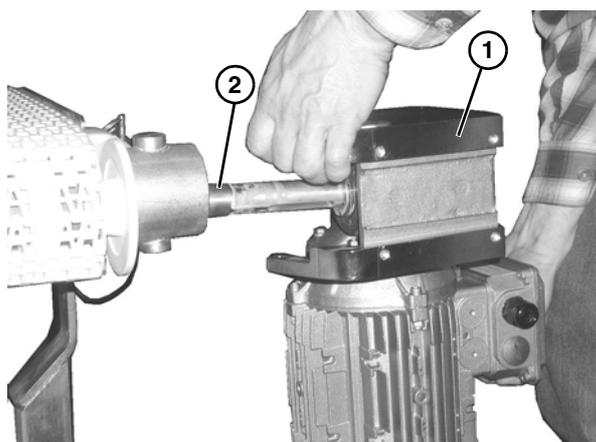

Figure 11
- Slide the gearmotor assembly (**Figure 11, item 1**) onto the drive spindle (**Figure 11, item 2**).